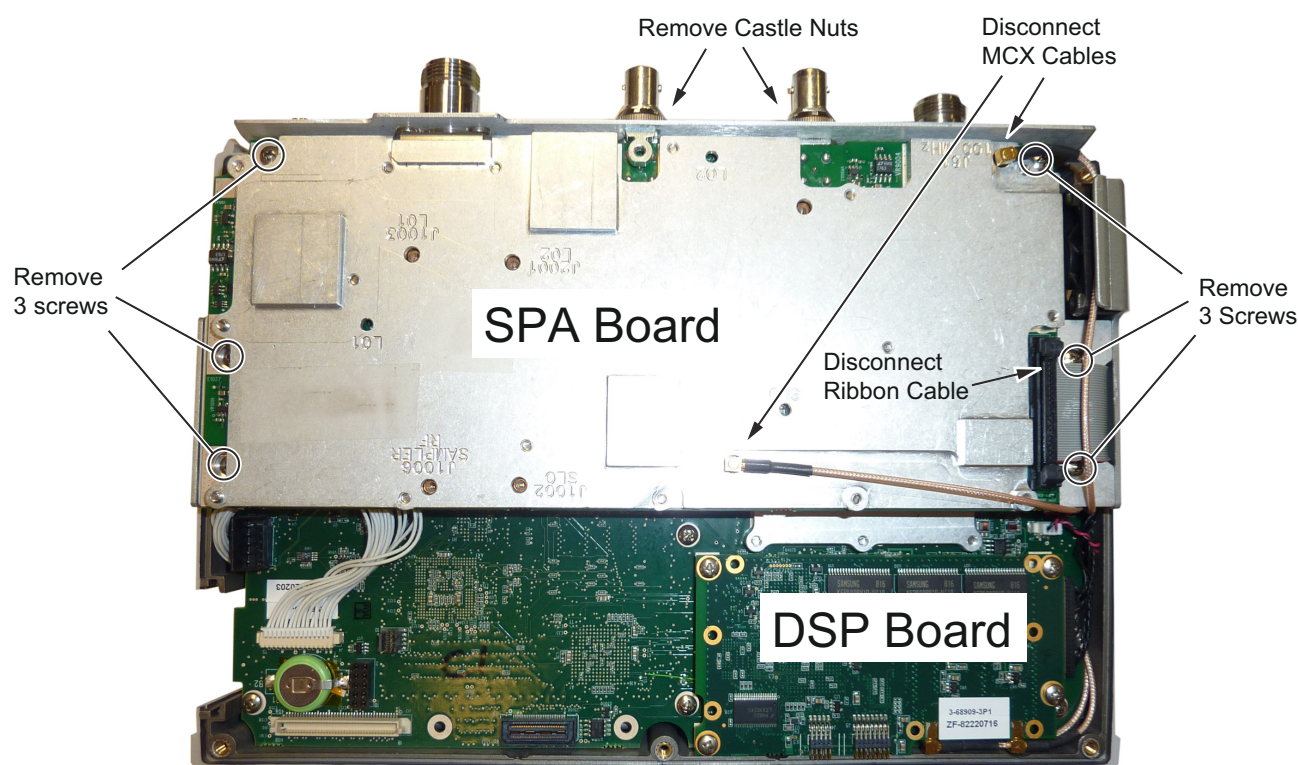

Figure 7-5. Removing the SPA Assemblies
3. Remove the castle nuts from the External Reference connector and the External Trigger connector (Figure 7-5).